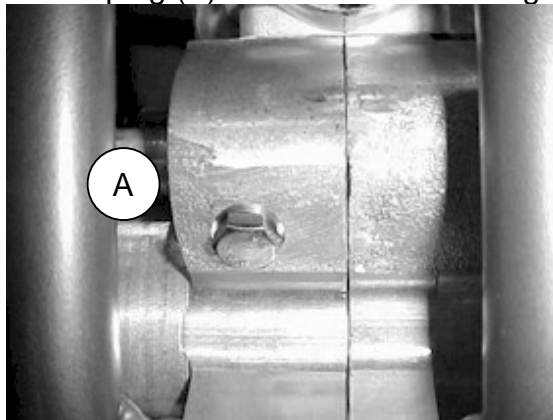

Figure 37
1. Remove the coolant drain plug (A) on the front of the engine case (figure 37).